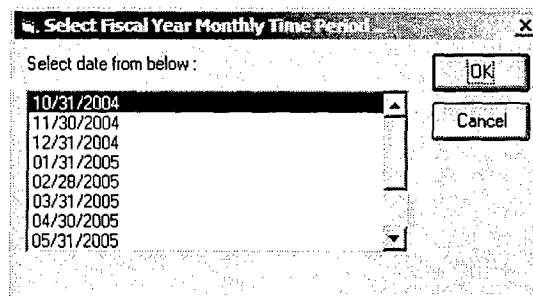

Figure 16. Select Monthly Time Period for ACOL Calculation
2. Select a monthly time period from the list provided (Figure 16). The time period is used to select an all-Army inventory that the ACOL calculation needs in order to collapse some pay tables.
2. Select a monthly time period that corresponds to the data extract (see Figure 16).